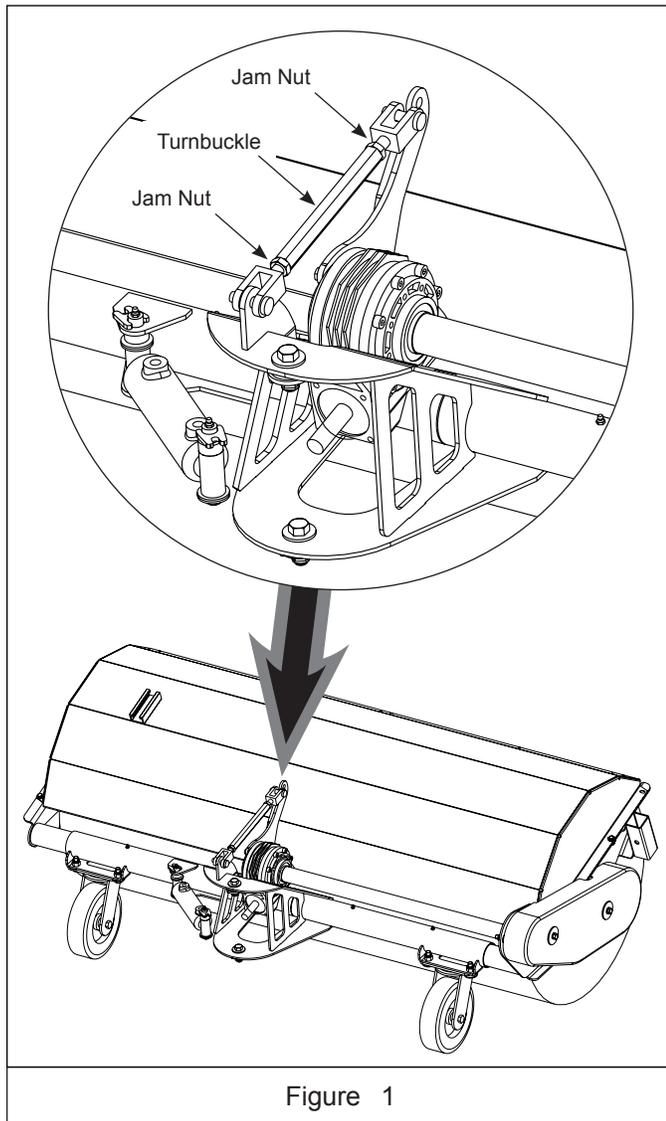

Figure 1
2. Loosen the jam nut on each end of the adjustment turnbuckle. See Figure 1.